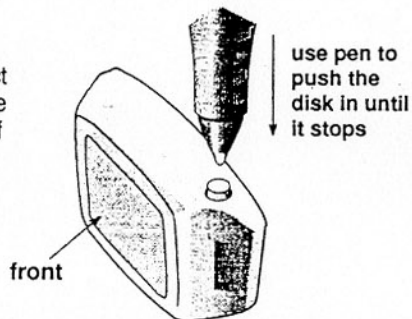

Figure 1
- 1) Turn "on" (activate) the device. Use a ballpoint pen or similarly pointed object to push in the small circular disk on the side of the device until it stops, Fig.1. If the disk does not appear nearly flush with the side, call 800-824-2996.